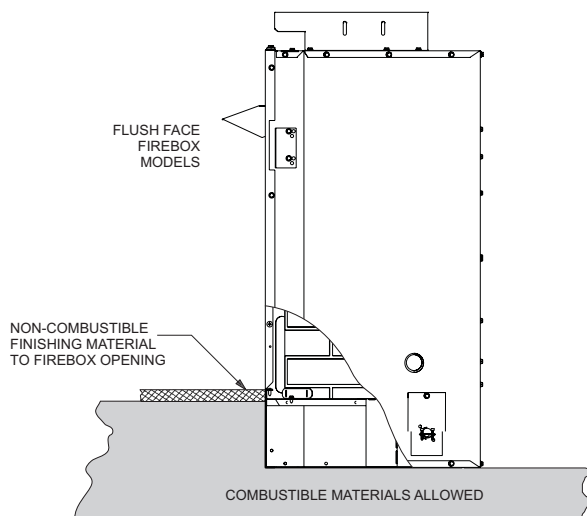
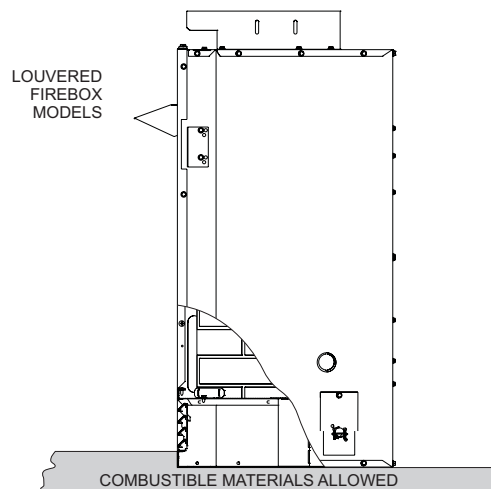

Figure 4
Figure 5
3. Recessed into the floor as illustrated by **Figure 4** (flush face), and **Figure 5** (louvered models).
4. Supported under all (4) corners of the firebox so that contact is made on all four perimeter edges on the bottom of the unit (Example: Four (4) concrete masonry blocks).